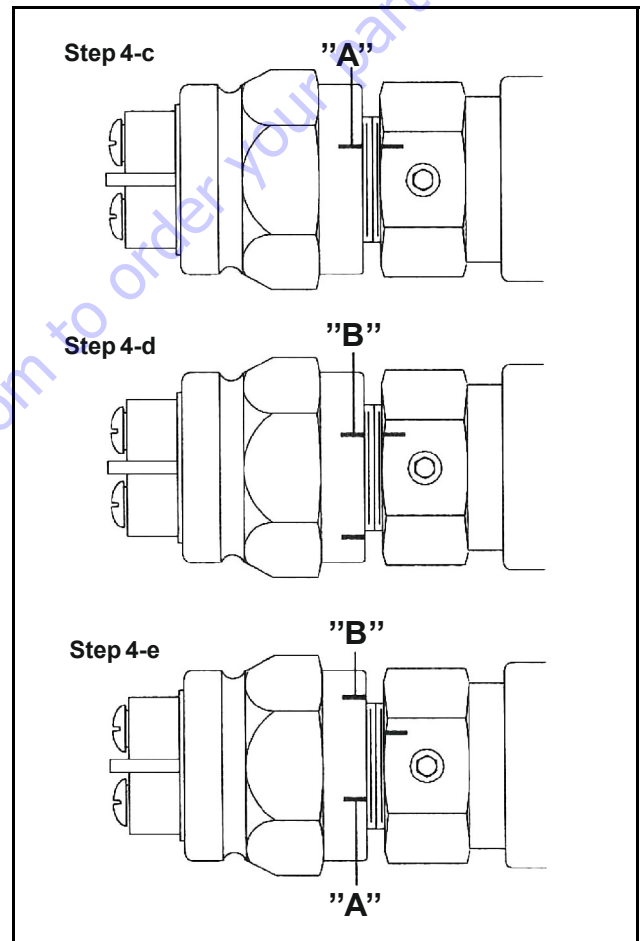

Figure 5-127. Neutral Lockout Switch Assembly
- c. Move the control arm out of the detent position. The test light will go on. Screw in the switch until the light goes off. Mark this as position "A". See Figure 5-127. Move the control arm to the detent position and the test light should come back on.
- e. Unscrew the switch one third of the distance between "B" and "A". Install and tighten the hex socket head set screw in one of the main quadrants of the hex of the switch adapter. See Figure 5-127. Torque set screw 2.3 to 2.8 in.lbs (3.2 to 3.8 Nm).